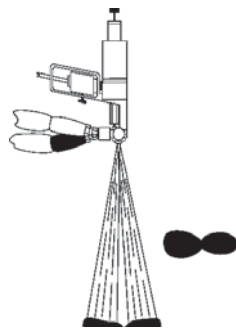

FIG. 14 Split Pattern
- a. After you back out adjustment screw, make fine adjustments (1/8 turns or less in either direction as required) to obtain pattern shown in . Moving the screw out beyond this point may cause the pattern to split, as shown in FIG. 14.